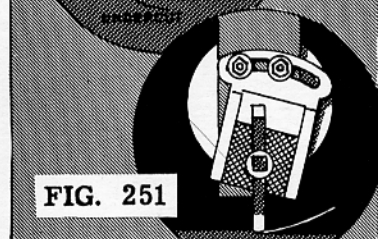

FIG. 251
2. Move the clapper box to the right (Fig. 251) if the tool is cutting on the right-hand side of the work. This will allow the tool to move clear of the work and will prevent unnecessary wear on the cutting edge of the tool.